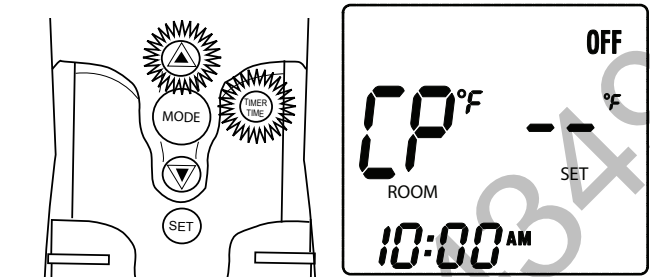

Fig. 21 Child Protection (CP)
1. To activate the “LOCK-OUT” feature, **press and hold** the UP and TIMER/TIME buttons, together, for 5 seconds. The letters **CP** will appear in TEMP frame on the LCD screen (Fig. 21).